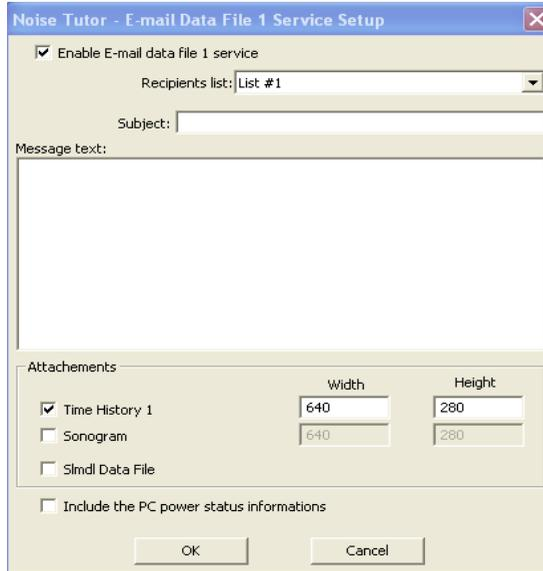

FIGURE 3-18 E-mail Data File Service Setup
Step 1 On the **Setup** menu, click **Data File**, and then click **E-mail 1....** This launches the **E-mail Data File 1 Service Setup** dialog box, as shown in FIGURE 3-18.
Step 2 Select **Enable E-mail data file ...**, as shown in FIGURE 3-18.